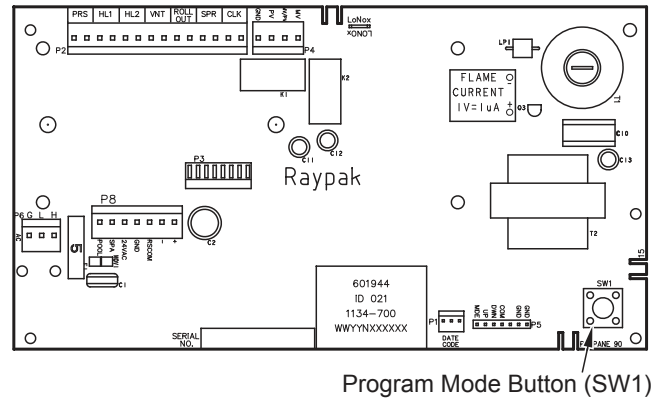

Figure 45. Thermostat Program Button (SW1)
- 1. Remove the four screws holding the control cover, and swing the panel down so the back side of the board is visible. Locate the Program Mode button (SW1). See **Figure 45**. Press and hold the button for 5-7 seconds until SET FACTORY DEFAULTS appears on the display. Release the program button.